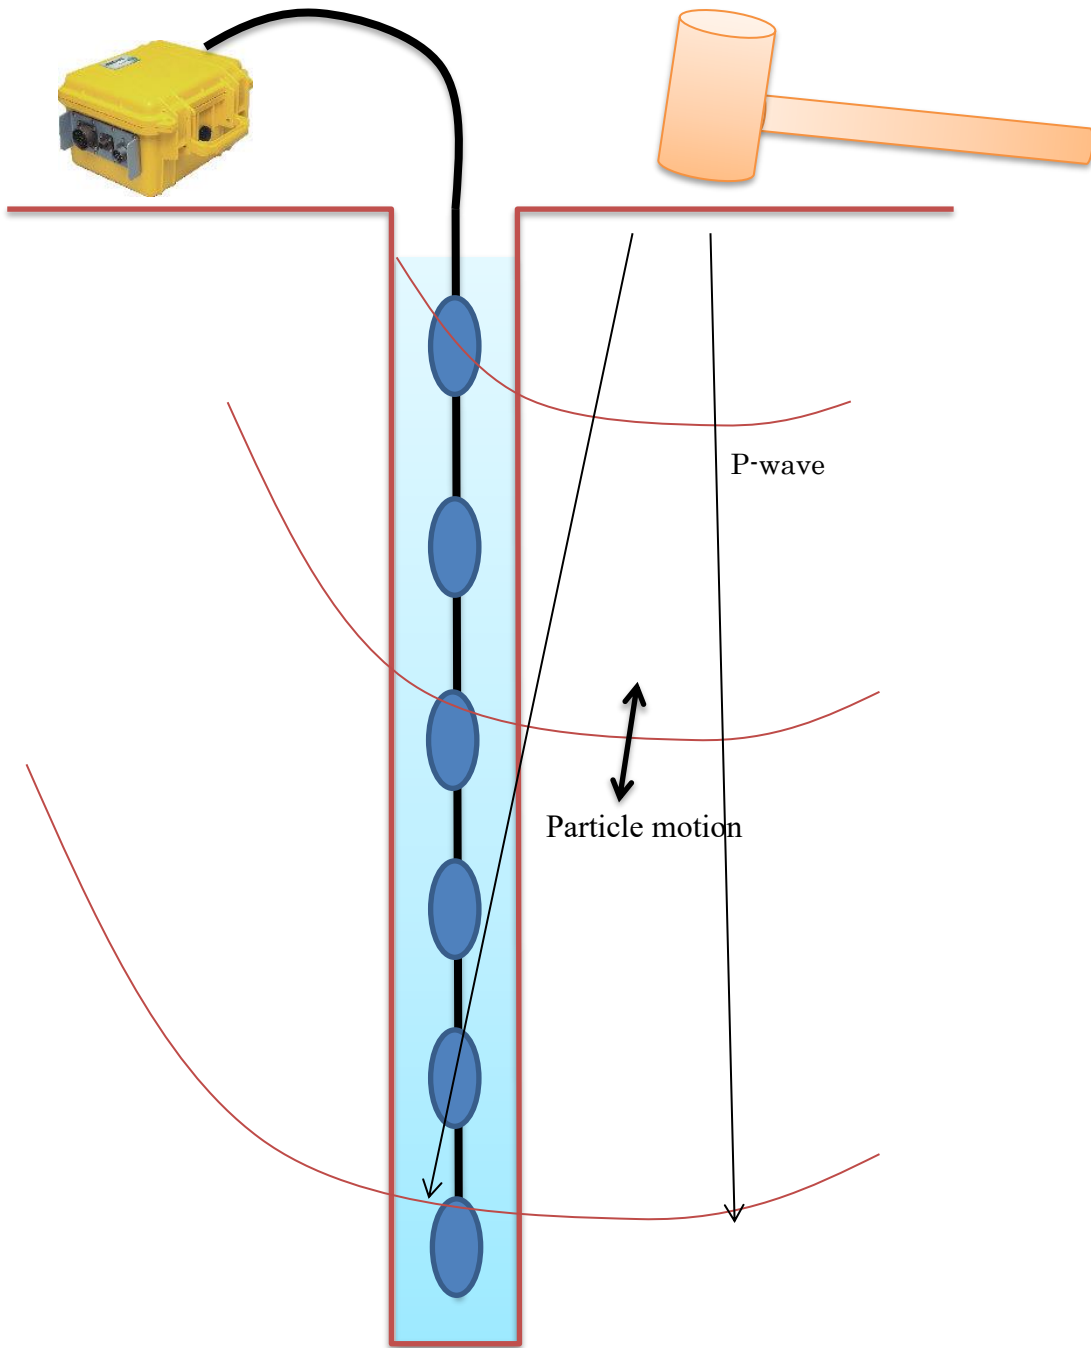

Figure 3. P-wave data acquisition using multi-channel receiver cable.
A) P-wave data using a multi-channel receiver (Figure 3).